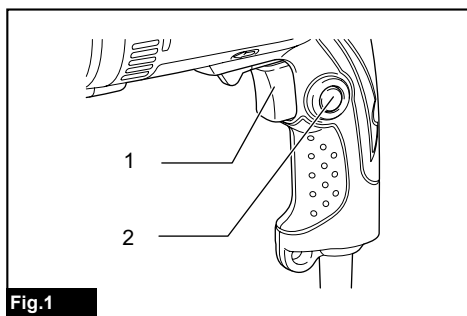

Fig.1
► Fig.1: 1. Switch trigger 2. Lock button